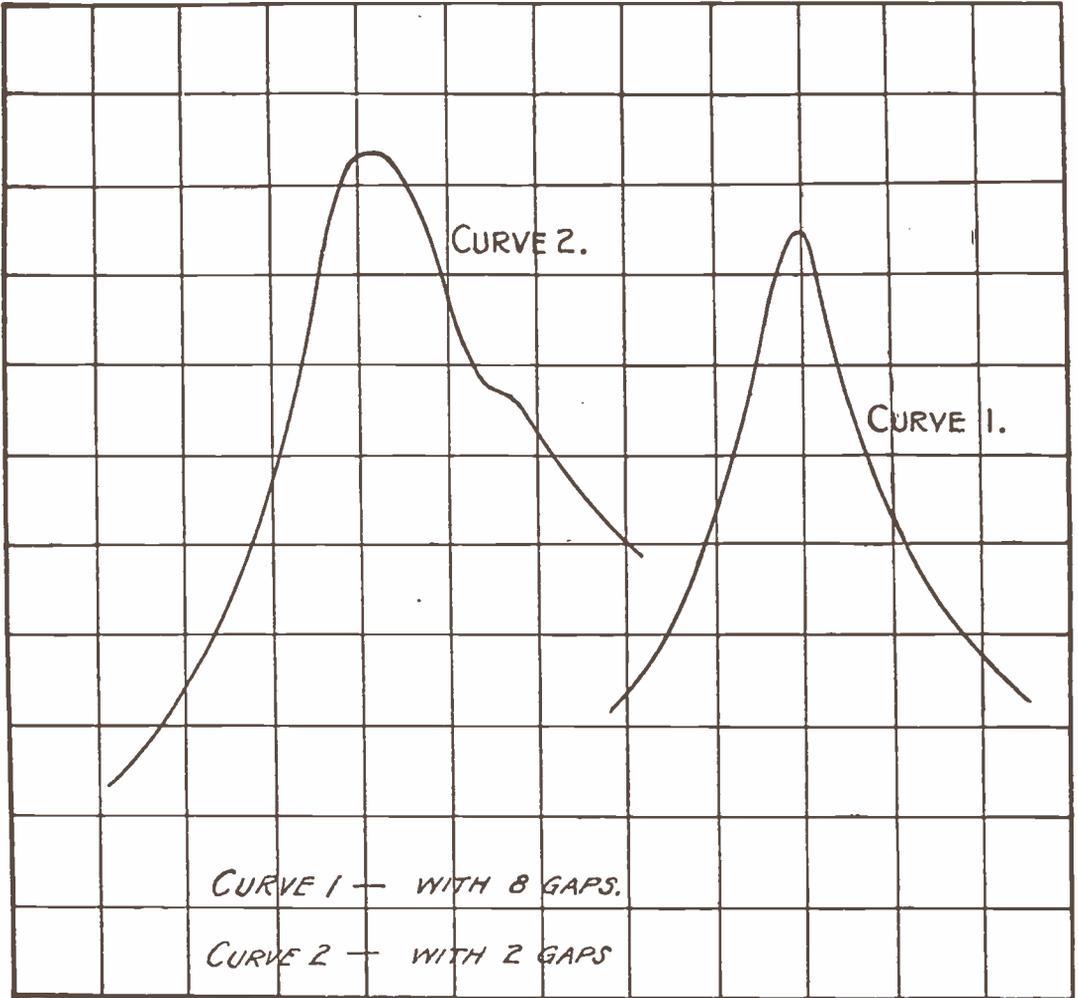

Fig. 6.—Diagrammatic Representation of the Characteristics of the New Spark Gap.
filing from stock or turning a ring to size. (See Fig. 6.)
Type C.—In *Type C* the switch arm is shorter than in *Type B*, as is shown in Fig. 6, and carries a piece of phosphor-bronze spring soldered to it. The metal ring should be made of $\frac{1}{8}$ " brass, turned or filed to size. It is best to support it with brass pieces (approximately the diameter of the contacts and held to the case in a similar manner), sufficiently thick to bring the ring to the same level as the contacts. This, however, is not necessary, as the ring may be fastened by drilling and tapping for an 8-32 screw, holding it directly to the case. If this is done, the phosphor-bronze spring will have a deeper bend. (See drawing.)
The first indication that impact excitation is taking place is the tight coupling required for maximum antenna current and also the large drop in this maximum which accompanies the slightest change in coupling from this critical position. The conditions can be more accurately analyzed by loosely coupling a wavemeter circuit to the antenna. The resonance curve (1) of Fig. 6 was taken on an antenna of 0.002 mf. capacity at a wave length of 850 meters with the eight gaps in series. The curve (2) of Fig. 6 was taken under exactly similar conditions, except that only two gaps were used. The wavemeter circuit contained a rotary variable condenser of maximum capacity about 0.004 mf. and an inductance of about 100,000 cms. The self-damping of the wavemeter circuit at the wavelength employed was 0.02. The coupling of the condenser circuit to the antenna was adjusted, in each case, for maximum aerial current. The maximum readings of the ammeter in the wavemeter circuit are not to be compared among themselves as a measure of the energy in the antenna, because the coupling between the wavemeter and the antenna was varied from time to time. As